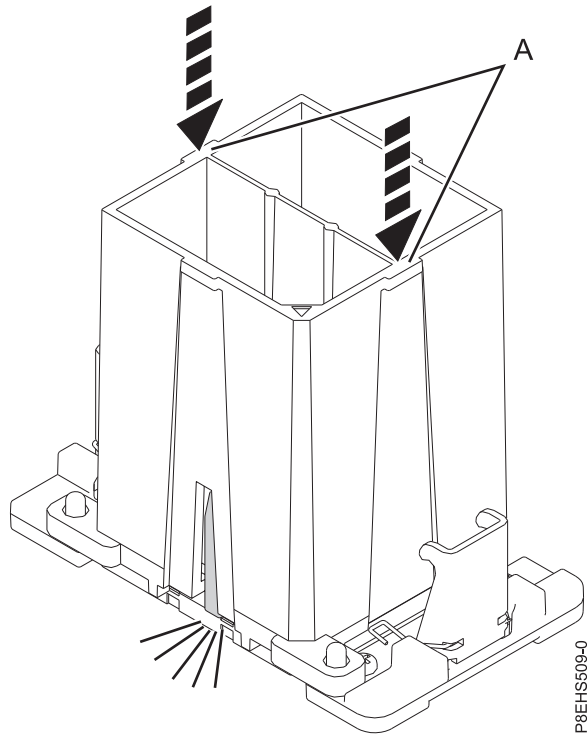

Figure 75. Locking the system processor module into the tool
- c. With the removal tool (A) sitting on top of the system processor module, push down on the tool to lock the system processor module into the tool, as shown in Figure 75 on page 67. Ensure that both of the tool jaws are locked on the system processor module. Do not press the blue release tabs until directed to do so later.